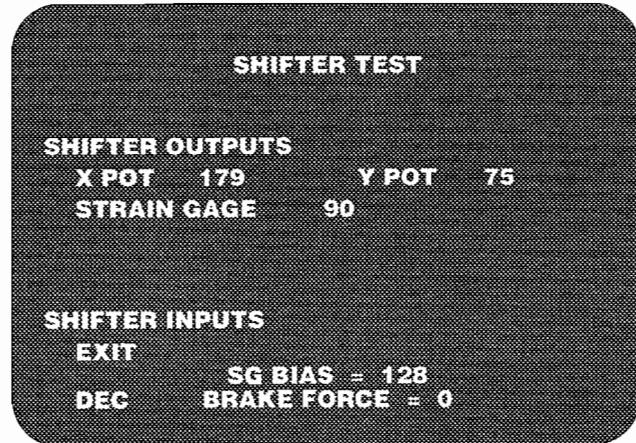

Figure 2-22 Shifter Screen
- *Shifter* screen is described below and shown in Figure 2-22. To enter the shifter screen, you must quickly turn the key. If you turn it slowly, you may not be able to enter the test.
you need to repair the shifter or the shifter PCB, see the shifter section in Chapter 3 for further information. The shifter screen is shown in Figure 2-22.
You may have some difficulty entering this screen when you turn the key. If you quickly turn the key, you will see the shifter screen in Figure 2-22. If you hold the key too long, you will see *Shifter Test Quit*. Just try again if this happens if you see this screen.